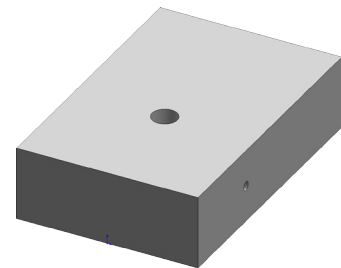
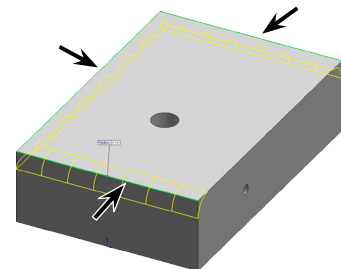

Fig. 15
Fig. 14
Step 3. Click the 3 edges shown in **Fig. 14** and click OK , **Fig. 15**.